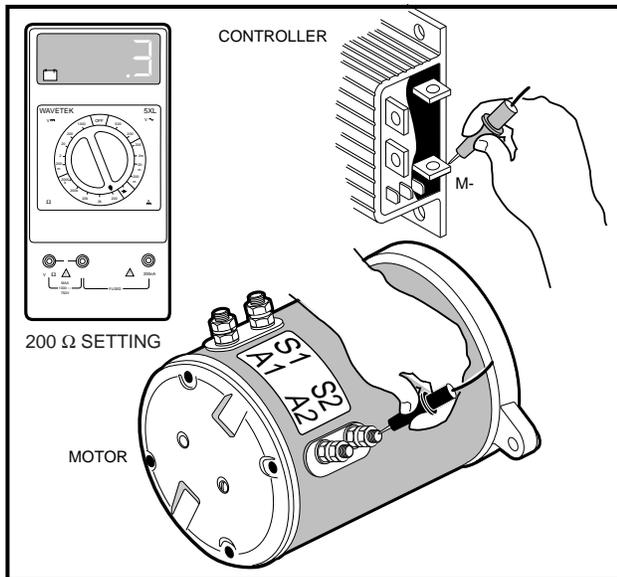

Figure 11-19 Test F&R (Reverse Position)
3. With Forward/Reverse handle in REVERSE, place red (+) probe on speed controller M- terminal and place black (-) probe on S2 motor terminal. Meter should indicate continuity (**Figure 11-19, Page 11-16**).